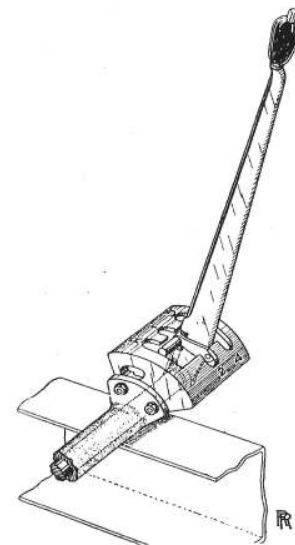

FIG. 2.
**Gear Changing.** The position of the gear lever for each of the four speeds and the reverse is shown in Fig. 2. When reverse is required, the button upon the top of the lever must be depressed. This releases a catch, and enables the lever to be moved into the gate marked “R.”